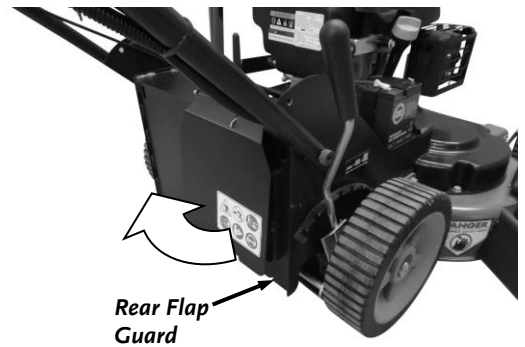

Figure 14
1. Lift the Rear Flap Guard (**Figure 14**).